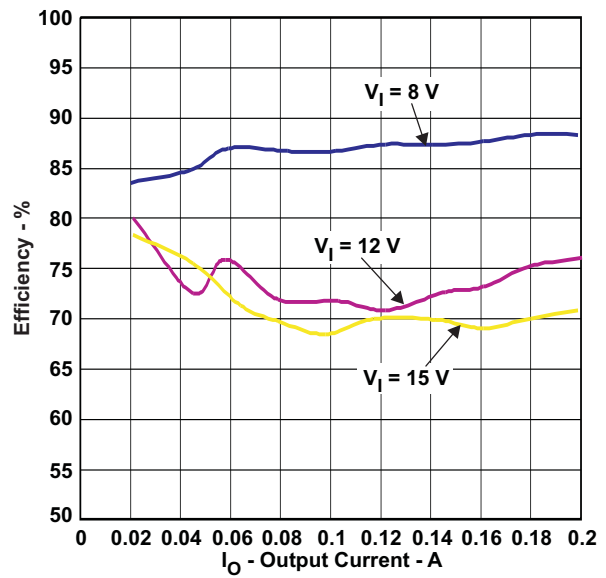

Figure 16. TPS54232 Low Current Efficiency
- Changed Figure 16 x-axis From: I_O - Output Current - mA To: I_O - Output Current - A 18